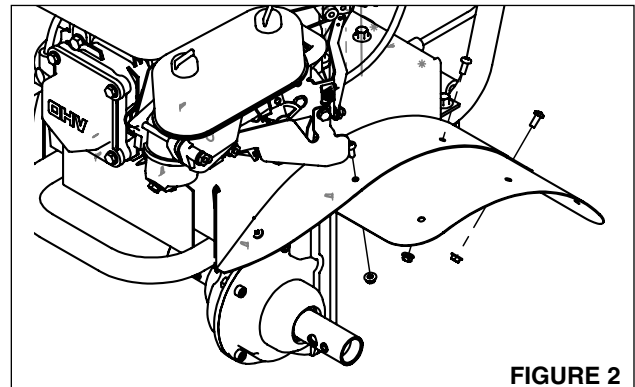

FIGURE 2
- b. Assemble hood extensions using 6- M5 x 12 bolts plus 6- M5 nuts. **SEE FIGURE 2.**